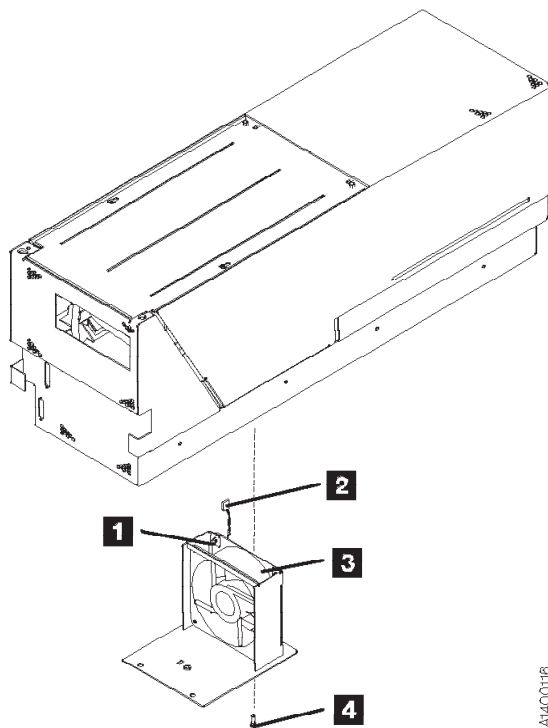

Figure 10-43. Fan (Card Pack)
3. See Figure 10-43. Remove three screws **4** from the plate.